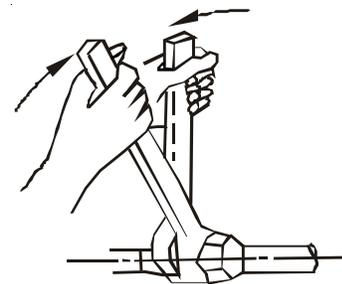

Figure 21
1. Align the center of the pipes and finger-tighten the flare nut. Using a spanner and torque wrench (Figure 21), continue tightening the flare nut until the nut is firmly on the pipe.